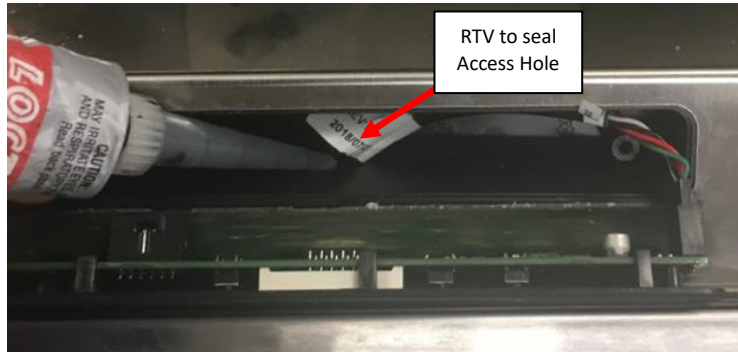

Figure 108: RTV Silicone applied to seal refrigerated space.
- iii. Seal the Access Hole from inside the UI Housing with RTV. **See Figure 108.**